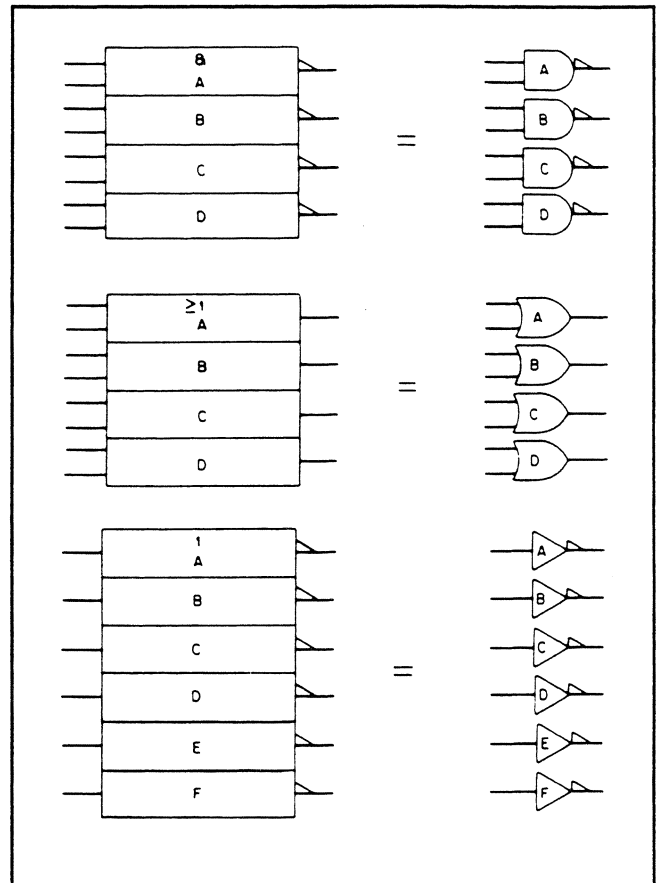

Figure A-1. Distinctive-Shape Outlines
5. When shown individually on a schematic rather than as part of an array, basic logic gates (AND, OR, buffer) are shown by distinctive-shape outlines (see Figure A-1).
Qualifier and Functional Labels. Figure A-1 shows qualifiers and functional labels. Qualifiers denote basic logic function. For example, "&" denotes the AND function. Functional labels, such as DEMUX for a demultiplexer, identify complex devices.